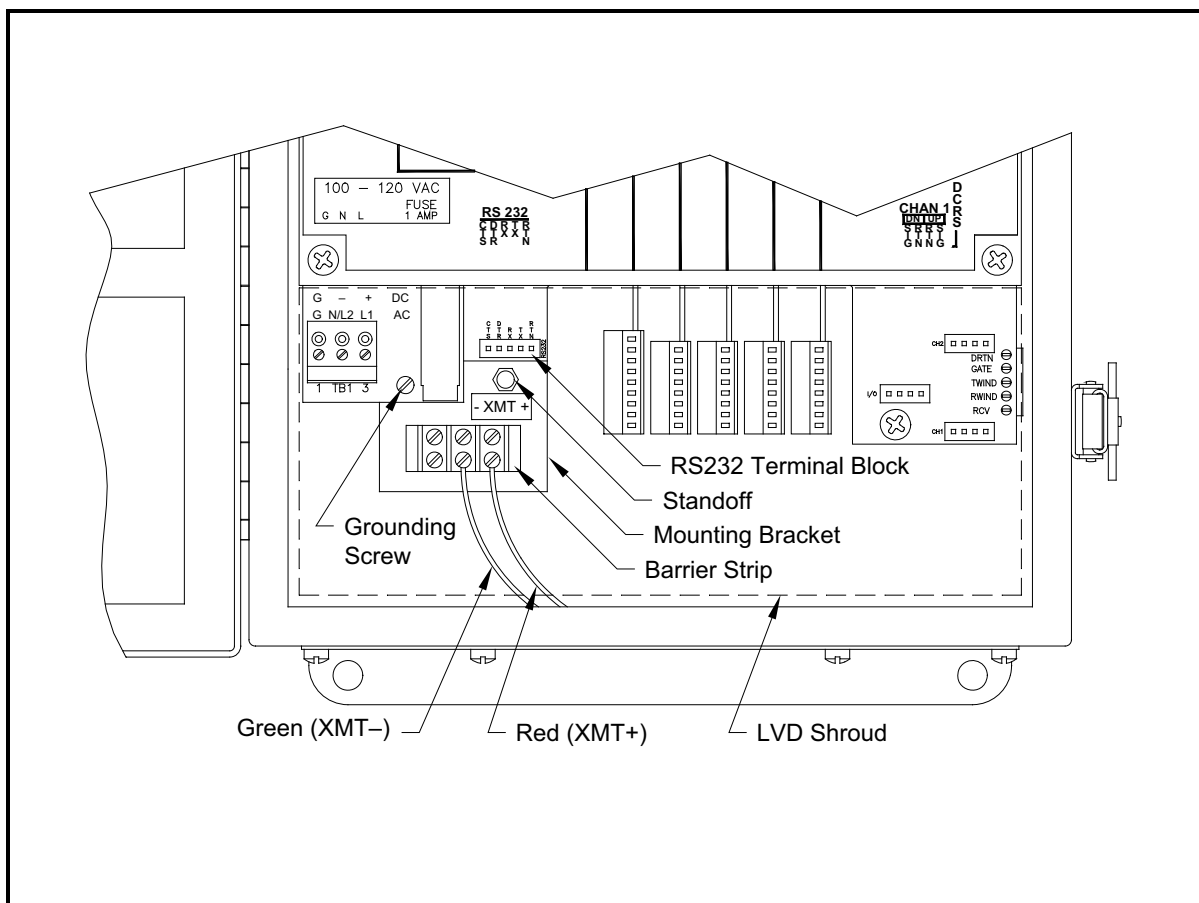

Figure 9: Interface Converter Mounting
A special bracket containing the serial interface converter and a three-terminal barrier strip is mounted inside the Model GF868, just below the RS232 terminal block (see Figure 9). The standard RS232 terminal block is wired to the input of the serial interface converter, and the RS-485 output of the serial interface converter is wired to the barrier strip.
Standard factory wiring of the RS485 serial interface is configured for point-to-point wiring. That is, a single Model GF868 may be wired directly to a single personal computer. To connect the RS485 serial interface, refer to Figure 9 on page 79 and complete the following steps:
3. Remove the serial interface converter *mounting bracket* by removing the standoff located just below the RS232 terminal block and the grounding screw just to its left (see Figure 9 on page 79).